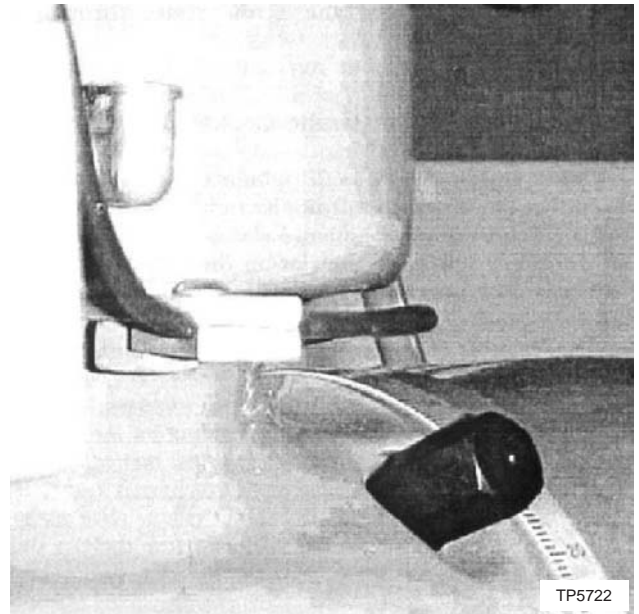

Figure 12.14 - Clamping the DRO Cable
50. Route the scale cable around the left side of the head making sure there is a loop at the top of the cable quill drive for travel. Install the scale cable clamps on the left side (see Figure 12.14).
51. Install the right chip cover from the back of the lower assembly and secure it using the remaining (3) hex head bolts (#8-32 x 3/8").
53. The quill will have to be moved up and down to permit wrench access for tightening the (3) bolts.